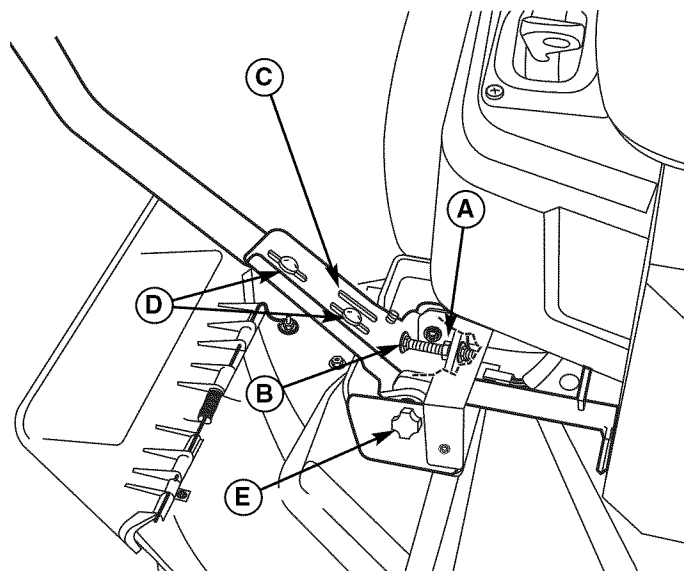

Figure 34. Control Lever Adjustment
4. Check the spark plug gap. It should be .030" (see Figure 34).
To Adjust Control Lever Height: Pull the levers in across the operator's lap to their DRIVE positions. Loosen the mount bolts (D, Figure 34) and raise or lower the levers to the desired position. Tighten the mounting bolts.
To Adjust Control Lever End Gap: The control lever end gap should be adjusted so that the levers do not contact each other when placed in DRIVE positions. Loosen the jam nut (A, Figure 34) and adjust the length of the carriage bolt (B) so that the levers do not contact each other. Repeat on the opposite side. Tighten the jam nut (A) to lock the carriage bolt in position.
To Adjust Operator Clearance: The space between the operator and the control levers can be increased by removing the lower mounting bolt (D, Figure 34), pivoting the lever forward, and reinstalling the capscrew through the control lever and forward slot (C). Repeat with the other ground speed lever.
If the rider veers to the right or left when the ground speed control levers are in the maximum forward position, the top speed of the right lever can be balanced by turning the adjustment knob (E, Figure 34). Loosen the jam nut and turn the knob COUNTERCLOCKWISE to increase speed or CLOCKWISE to decrease speed. Tighten the jam nut when complete.